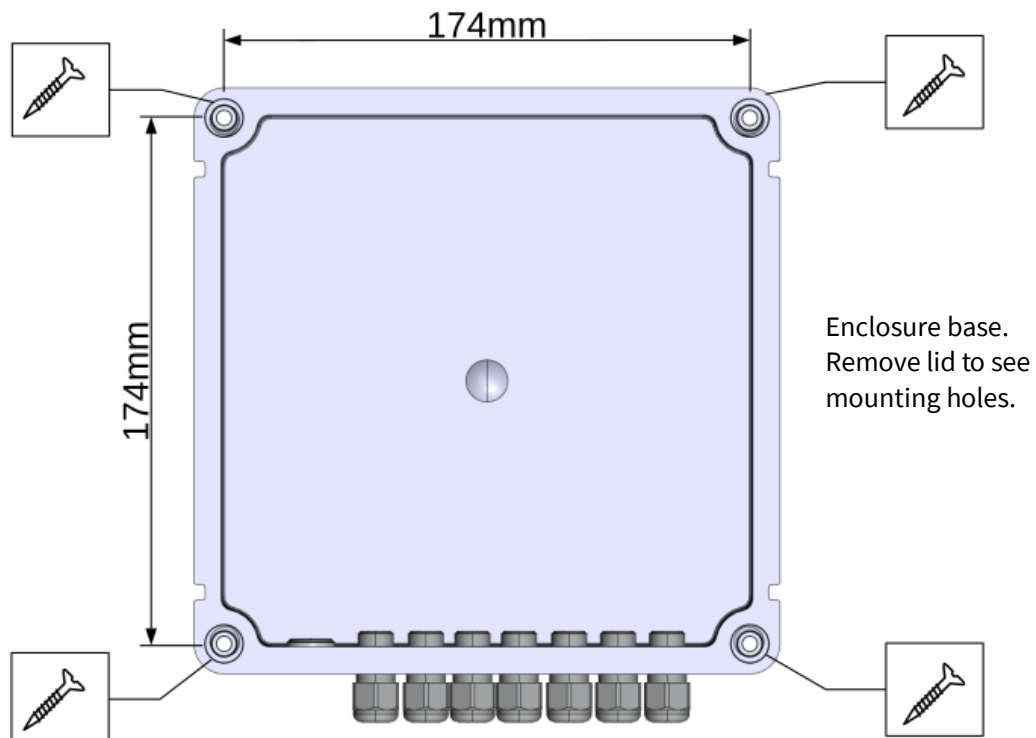

Figure 4: Enclosure mounting hole positions
- ⚠ Only use Procell Constant PC1500 or Varta Industrial Pro 4006 LR06 (AA) primary cells.
- ⚠ Only use the mounting points shown in Figure 4. Do not drill holes in the enclosure or otherwise modify it as this would affect the IP65 rating and may allow water and/or moisture to enter the enclosure, affecting the correct function of the alarm. It would also invalidate the ATEX/UKEX/IECEx certification.
- ⚠ The voltages used on all the relay output contacts must be similar, i.e. do not mix low voltage (ELV) and high voltage (LV).
2. Use the mounting points provided on the enclosure to mount in the position required. See Figure 4 for mounting points and dimensions.